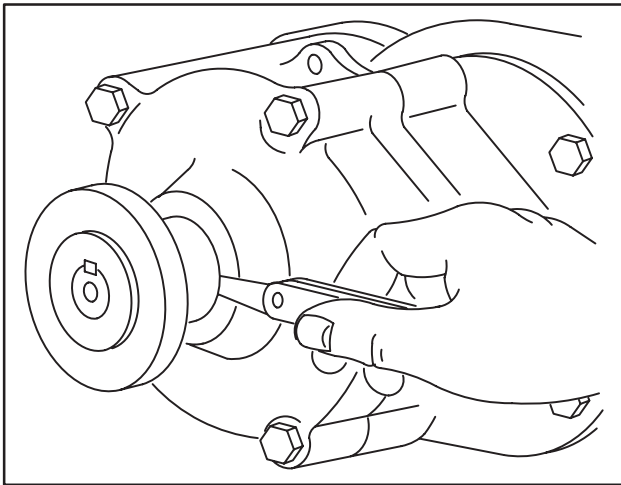

Fig. 151 – CHECKING END PLAY USING PULLEY POCKET
**NOTE:** If a dial indicator is not available, use a sprocket or pulley and check end play as shown in Fig. 151.